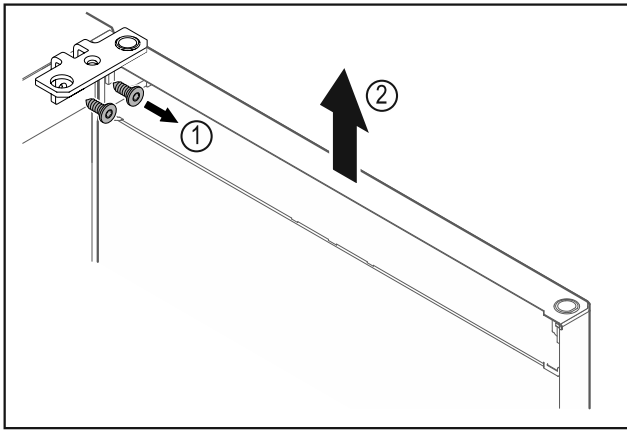

Fig. 5
- ▶ Unscrew the hinge Fig. 5 (1).
- ▶ Lift the door with the hinge straight up by Fig. 5 (2) roughly 200 mm and take it off.